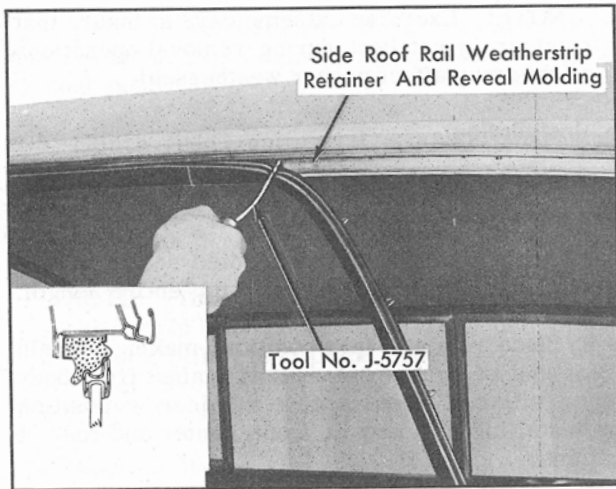

Fig. 17-41 Side Roof Rail Weatherstrip
2. While positioning inboard edge of weatherstrip into inner flange of retainer, install weatherstrip clips into clip holes using Weatherstrip Clip Inserting Tool No. J-5757. To install clips into holes, place "V-shaped" tip of tool on loop of clip and push clip into hole, as shown in Fig. 17-41, until it snaps into position.